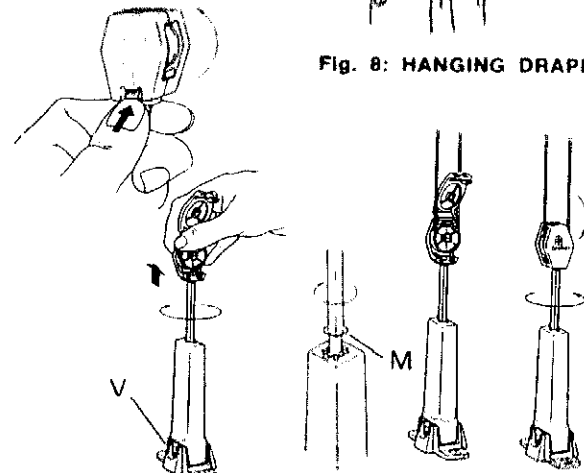

Fig. 9: INSTALLING CORD-TENSION PULLEY
1 INSTALLING WITH CORD-TENSION PULLEY INSTEAD OF CORD DROPS. Attach Cord-Tension Pulley to wall, floor, baseboard, or window casing directly under draw cords. Base is hinged at "V" for either right angle or perpendicular mounting (Fig. 9). Press thumb tab in and upwards to unsnap pulley head cover. Pull head of pulley up until tabs (M) are through tube. Rotate to lock in (up) position. Slip draw cord around pulley, bend hinge and snap to close.